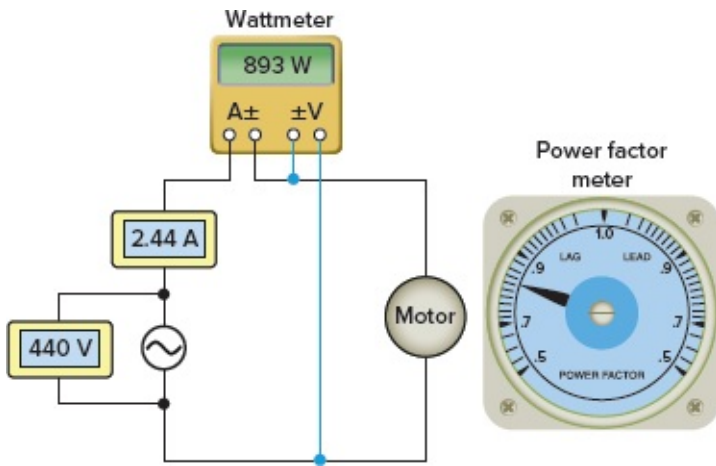

Figure 5-43 Motor power factor (PF).
You may recall that **power factor (PF)**, Figure 5-43, is defined as the ratio of the actual (or true) power (watts) to the apparent power (volt-amperes) and is a measure of how effectively the current drawn by a motor is converted into useful work. The motor exciting current and reactive power under load remain about the same as at no load. For this reason, whenever a motor is operating with no load, the power factor is very low in comparison to when it is operating at full load. At full load the PF ranges from 70 percent for small motors to 90 percent for larger motors. Induction motors operate at their peak efficiency if they are sized correctly for the load that they will drive. Oversized motors not only operate inefficiently, but they also carry a higher first cost than right-sized units.